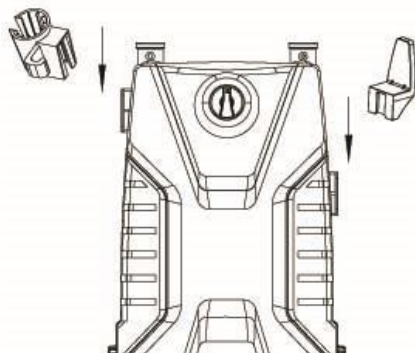

Fig.4
4. ASSMEBLING THE GUN HOLDER (Fig.4)